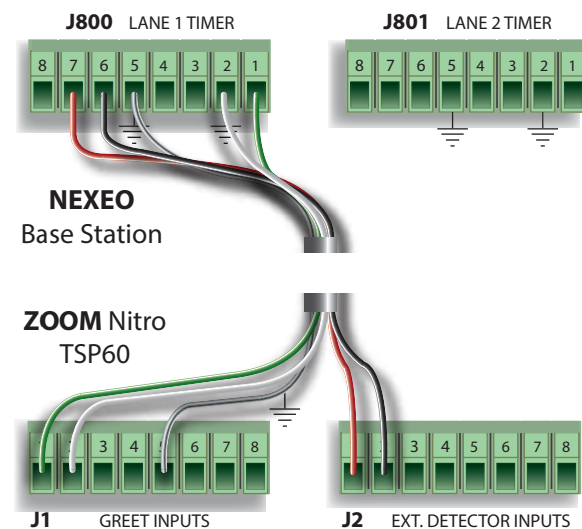

Fig. 2.2
- A** For NEXEO®: Connect the Green and White wires from J800-1&2 on the base station to the Greet1 terminals J1-1&2 on the TSP (see Fig. 2.2). With polarized terminals, always connect +ve to +ve and -ve to -ve. Connect the Shield wire to ground (pin 5 on J800 & J1). Connect the remaining Red wire from J800-7 to J2-1 and Black wire from J800-6 to J2-2 (or any of the available detector inputs). For stores with another menu (e.g., a Y-Lane), repeat this step using J801 on the base station to Greet2 and another detector input on the TSP.